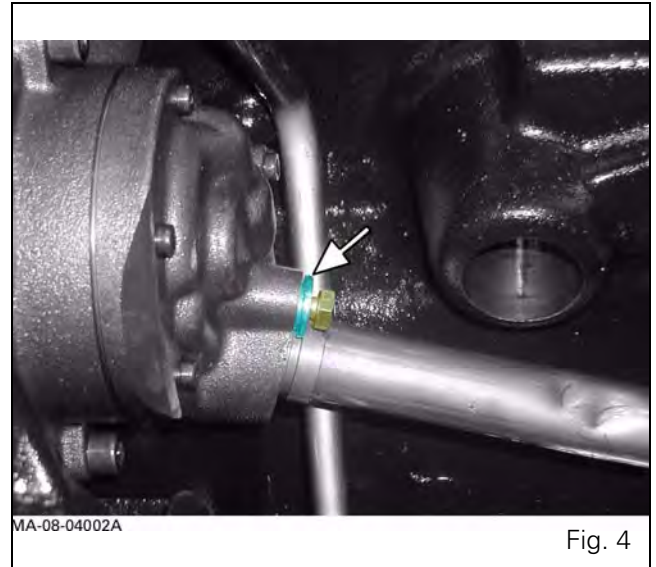

Fig. 4
5. Remove the suction pipe (Fig. 4).